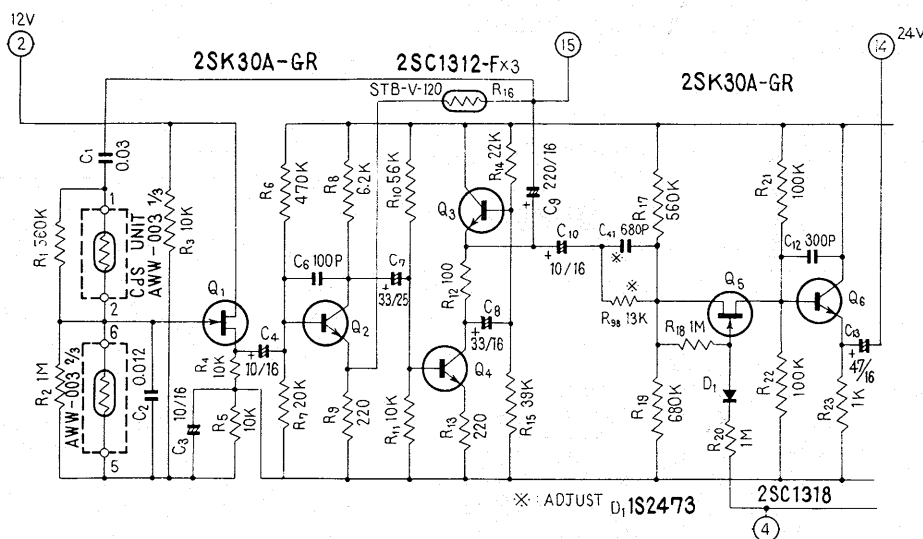

Fig.38
2. Adjust a value, as shown in Fig. 38, within a range of 0~15kΩ so that output level from the OSCILLATOR OUTPUT becomes 2.2V.